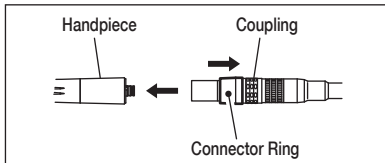

Fig. 40
4) Pull the connector ring of the coupling backward and remove the handpiece. (Fig. 40)